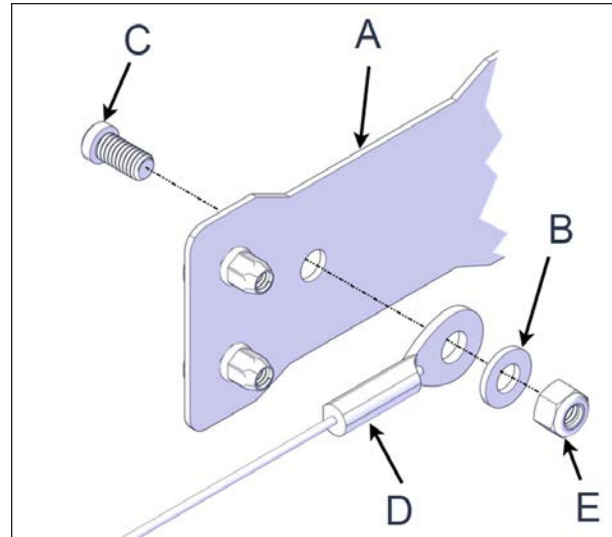

FIGURE 36: WIRE INSTALLATION
1. Install the cable with the eyelet flat side in contact with the long connection plate, see Figure 36. See the table following the image for the fasteners to use.